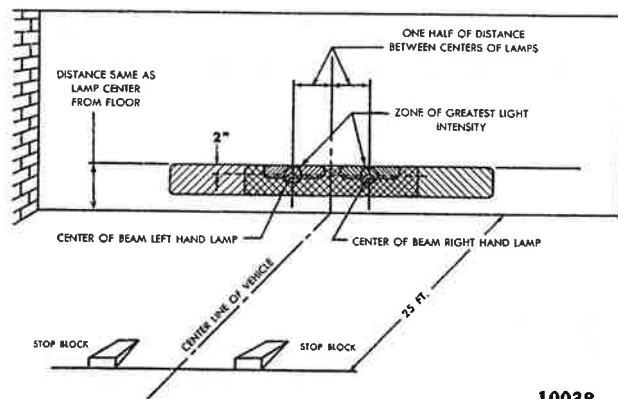

FIG. 170—HEADLIGHT AIMING CHART FOR 5000-SERIES LAMPS
- b. Turn the vertical aiming screw, located at the top of the lamp housing, counterclockwise until the lamp beam is considerably lower than the horizontal reference line on the screen. Then, turn the same screw clockwise until the center of high intensity coincides with the reference line. See Fig. 170.
c. Turn the horizontal aiming screw, located on the side of the lamp housing, counterclockwise until the beam is off. Then, turn the same screw clockwise until the center of high intensity is equally divided by the vertical reference line. See Fig. 170.